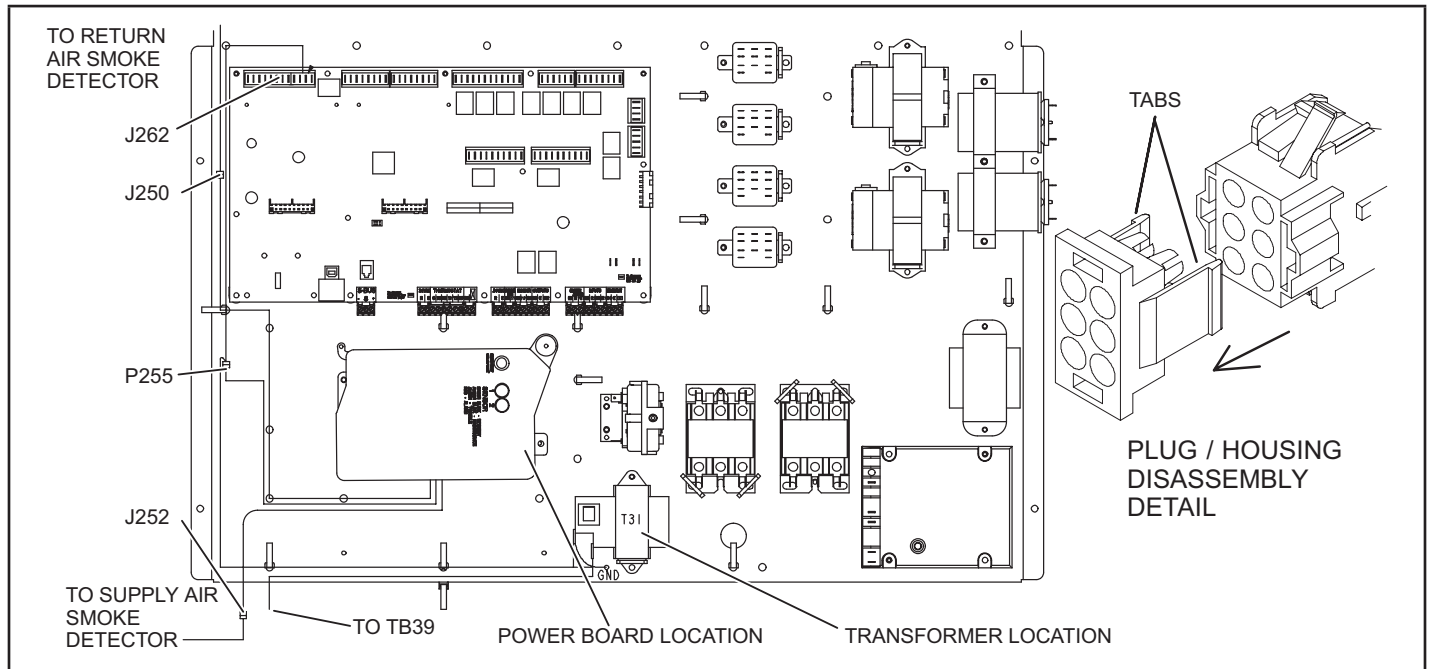
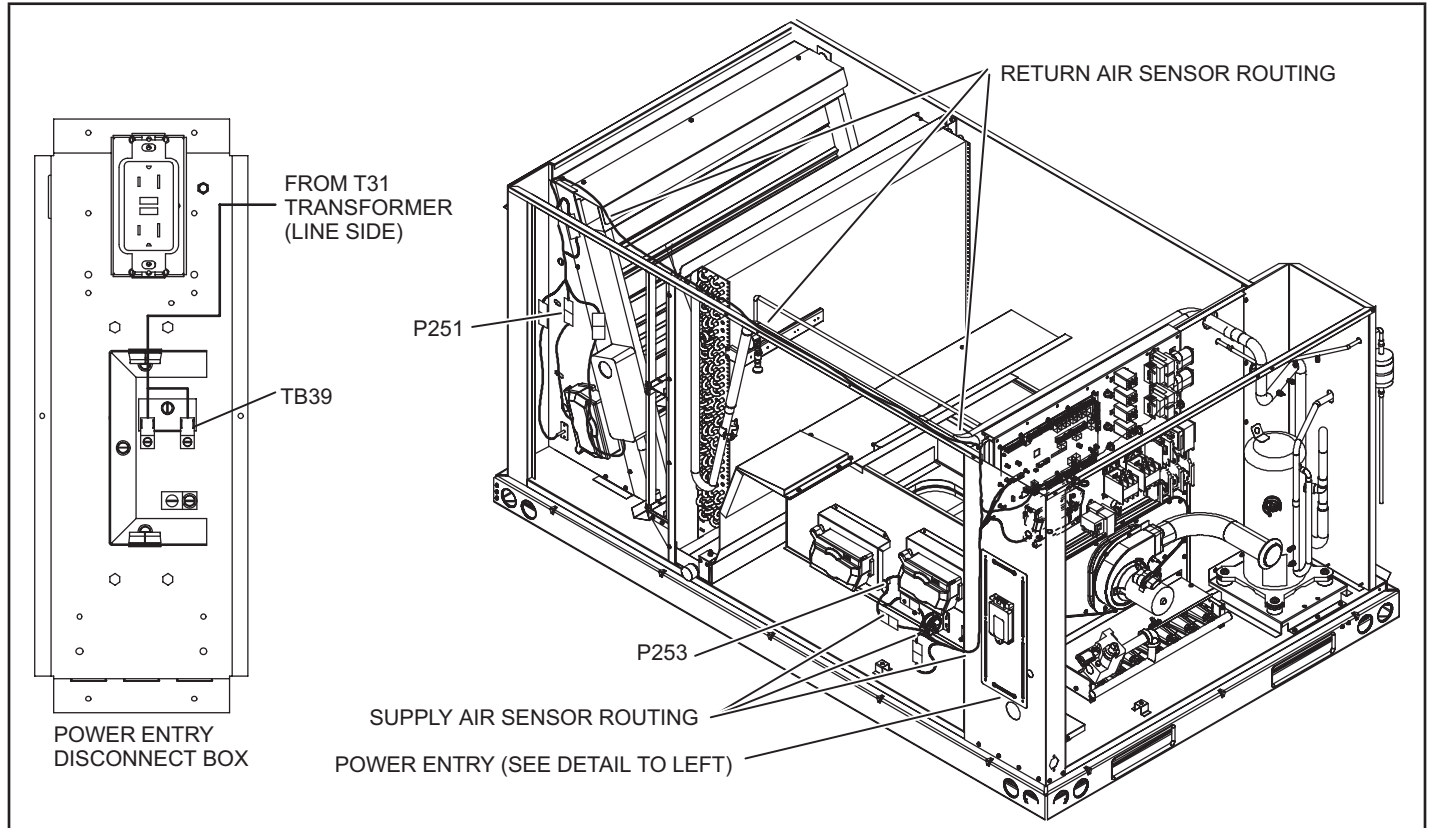
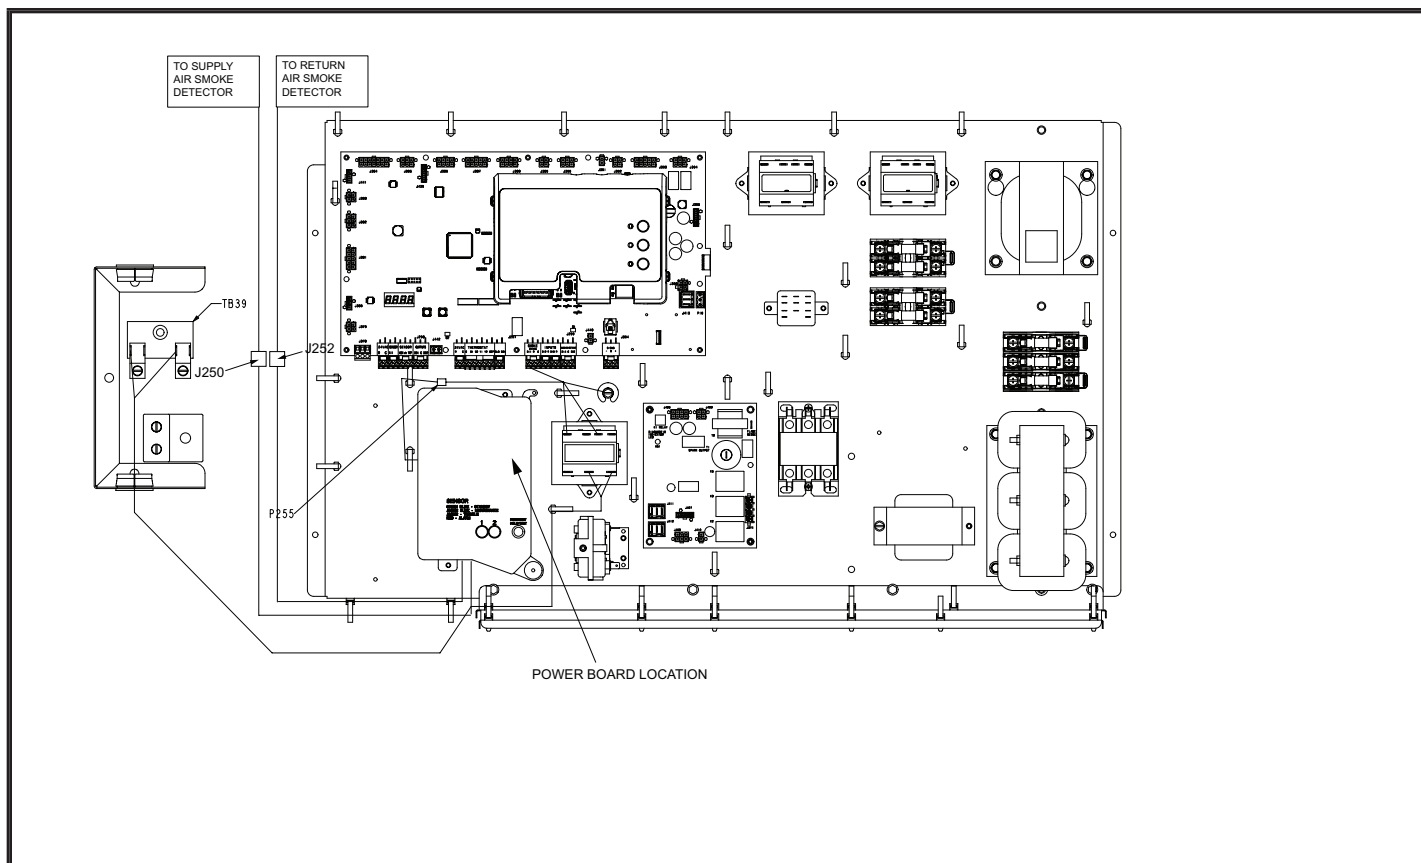

FIGURE 4 Power board / transformer location (M3 Board)
FIGURE 5 Wiring harness routing
FIGURE 6 Power board / transformer location (M4 Board)
Mount transformer to control board panel next to the smoke detector power board as shown in FIGURE 4.
- 2 - Route return air sensor harness to the top of the unit and secure to existing bundle of wires. Route supply air sensor harness through hole provided near the bottom of the indoor/controls divider panel (see FIGURE 5). Make sure wires are secured away from other components.
NOTE - It may be necessary to disassemble plugs in order to route harness through unit divider panels. To disassemble plugs, depress tabs on each side and slide end of plug out in the direction shown. Pull each wire out of the plug housing making sure to note correct pin location for reassembly. See FIGURE 4 (M3 Board) and FIGURE 6 (M4 Board).
3 - Route T31 transformer harness from line side of transformer to TB39 located on back of main disconnect box (see FIGURE 5). Connect load side of transformer to smoke detector control board power harness. See FIGURE 4 (M3 Board) and FIGURE 6 (M4 Board).